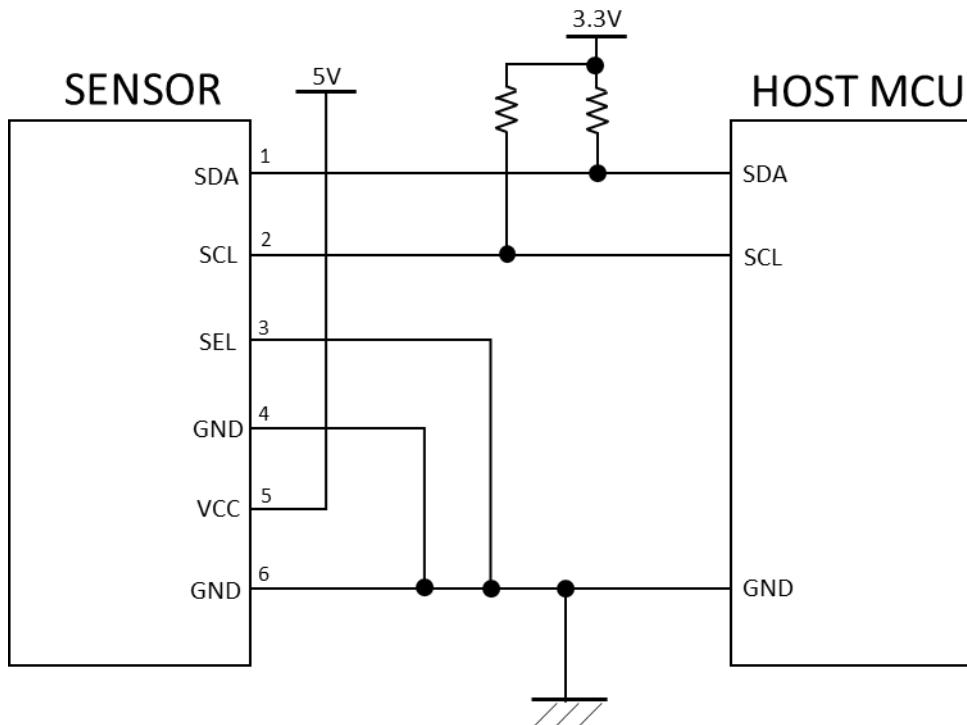

Fig. 7. I²C出力の接続例 (Example connection of I²C output)
- SCL and SDA terminals should be connected to external pull-up resistors (e.g. 10kΩ) as shown in Fig.7 above.